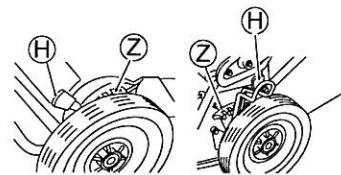

Fig. 6.
- 2 Lean the mowing height adjustment lever (H) toward the wheel side, separating from the notches (dents) (Z). (See Figs. 6 and 7.)